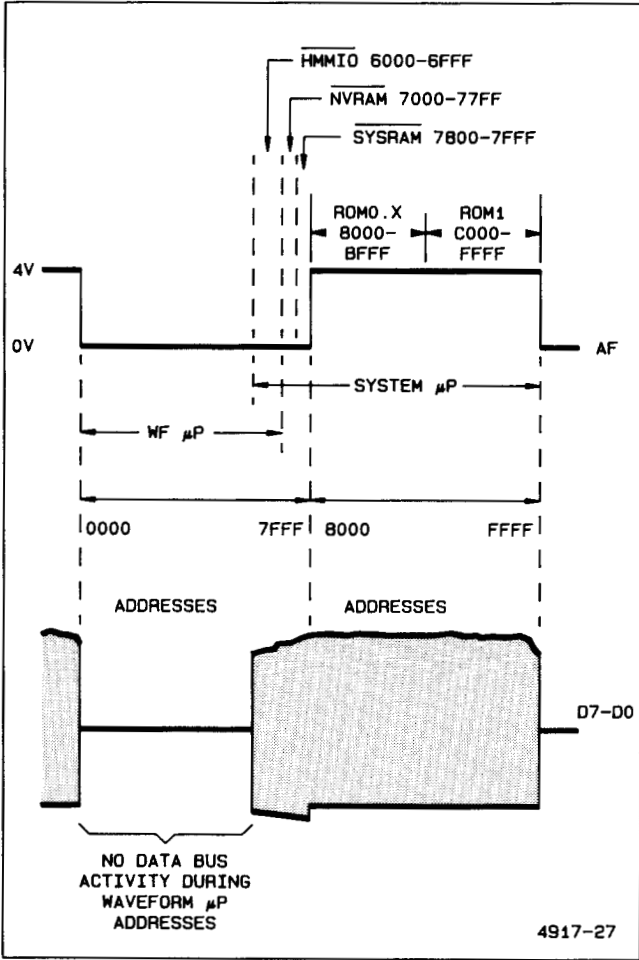

Figure 6-10. System μ P data bit D7 in the Bus Isolate mode.
3. Check that no data bus activity is occurring during the Waveform μ P address space (see Figure 6-10 to compare against). Faulty address decoding can cause response from an incorrectly addressed device.